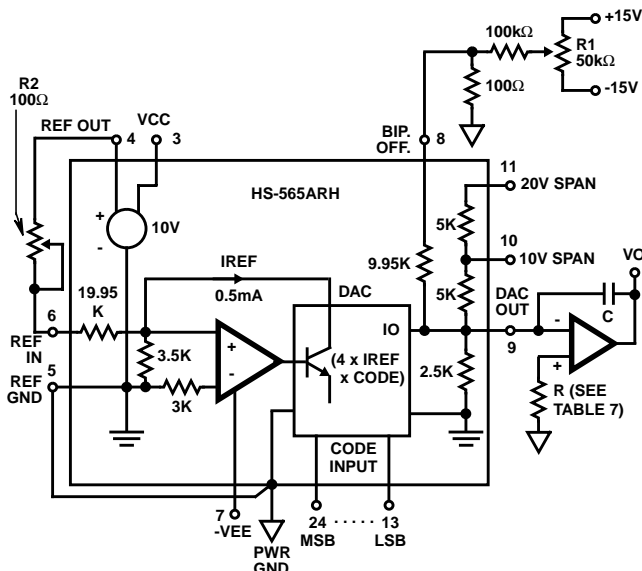
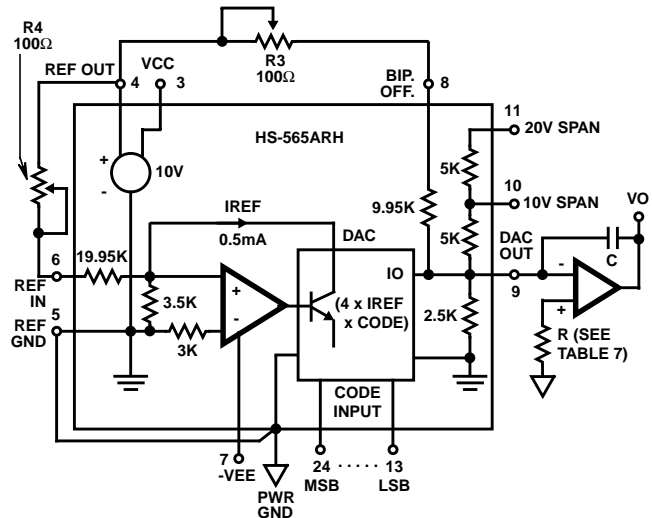

FIGURE 3. UNIPOLAR VOLTAGE OUTPUT
FIGURE 4. BIPOLAR VOLTAGE OUTPUT
- Reference the Settling Time discussion and Figure 3.
The HS-565ARH's current output may be converted to voltage using the standard connections shown in Figures 3 and 4. The choice of operational amplifier should be reviewed for each application, since a significant trade-off may be made between speed and accuracy. Remember settling time for the DAC-amplifier combination is
The HS-565ARH will perform as specified without calibration adjustments. To operate without calibration, substitute 50Ω resistors for the 100Ω trimming potentiometers: In Figure 3 replace R2 with 50Ω; also remove the network on pin 8 and connect 50Ω to ground. For bipolar operation in Figure 4, replace R3 and R4 with 50Ω resistors.
Calibration provides the maximum accuracy from a converter by adjusting its gain and offset errors to zero. For the HS-565ARH, these adjustments are similar whether the current output is used, or whether an external op amp is added to convert this current to a voltage. Refer to Table 7 for the voltage output case, along with Figure 3 or 4.